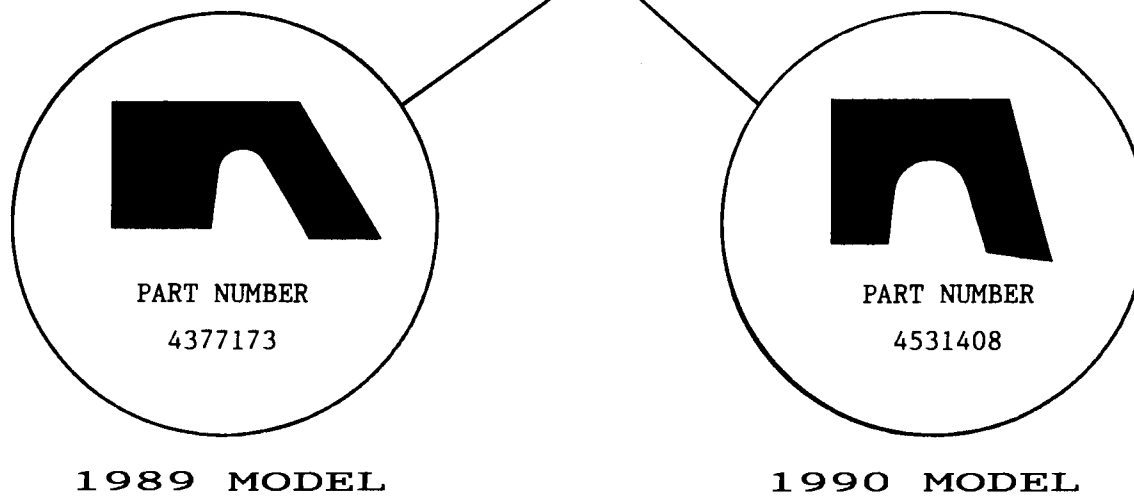

Figure 16
- (4) INPUT CLUTCH RETAINER - The underdrive/overdrive reaction plate tapered snap ring groove was moved "Down" by .040" (Can be Detected Visually) to accomodate the thinner underdrive/overdrive reaction plates (Figure 15). Another change that occurred at the same time is the underdrive clutch outer lip seal groove depth is .040" "Shallower" to accomodate a new underdrive clutch outer lip seal (See Figure 16).
- (5) UNDERDRIVE/OVERDRIVE TAPERED SNAP RING - The thickness of this snap ring was reduced by .010". The 1990 snap ring is easily identified, as they will be either Green, or White, in color. The previous 1989 snap rings were Blue in color. They WILL NOT interchange.
- (6) UNDERDRIVE CLUTCH OUTER LIP SEAL - The lip seal cross section has been reduced by .040" (Smaller in Overall Diameter) to accomodate the change in the depth of the groove in the input clutch retainer (See Figure 16). The OEM part number is printed on the seals for identification. The 1989 (Large) is 4377173, and the 1990 (Small) is 4531408. This will confirm that you have the proper seal for this location (See Figure 16).